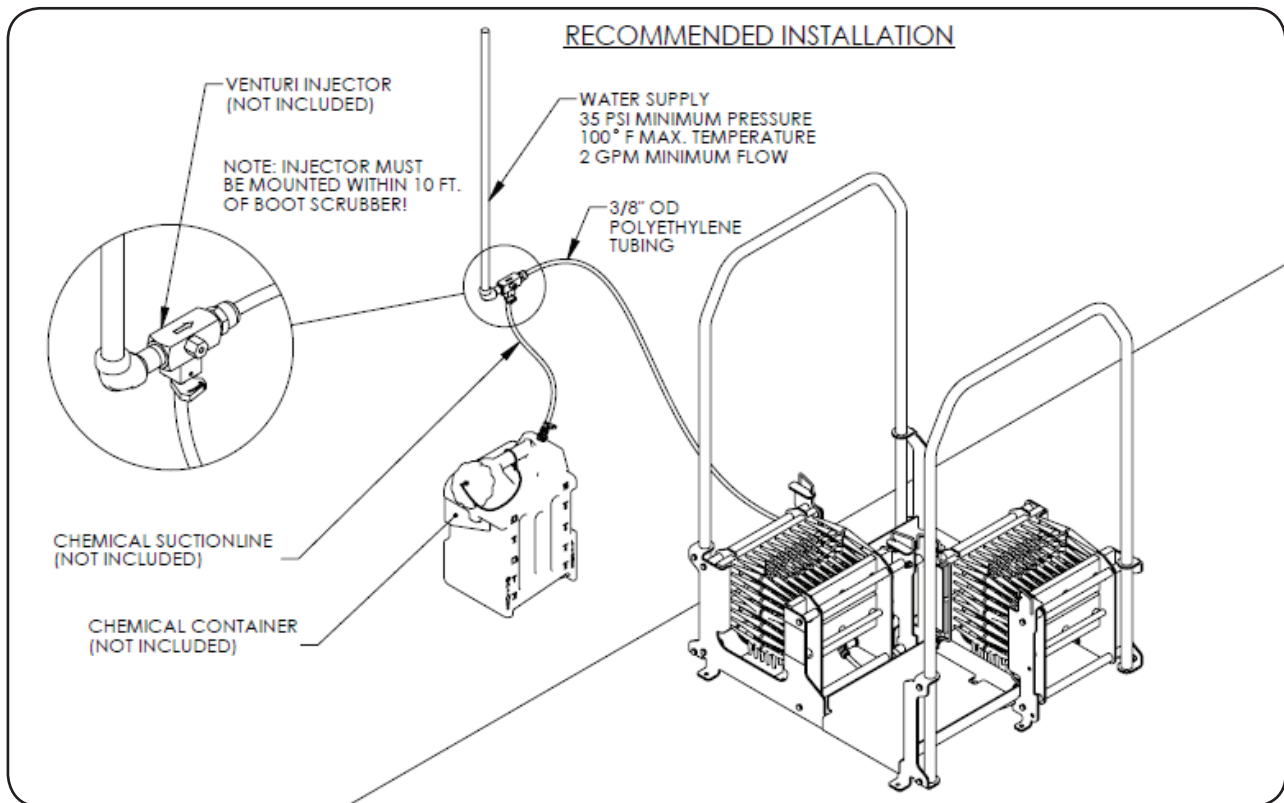

Figure 4
- See Figure 4 for recommended installation.